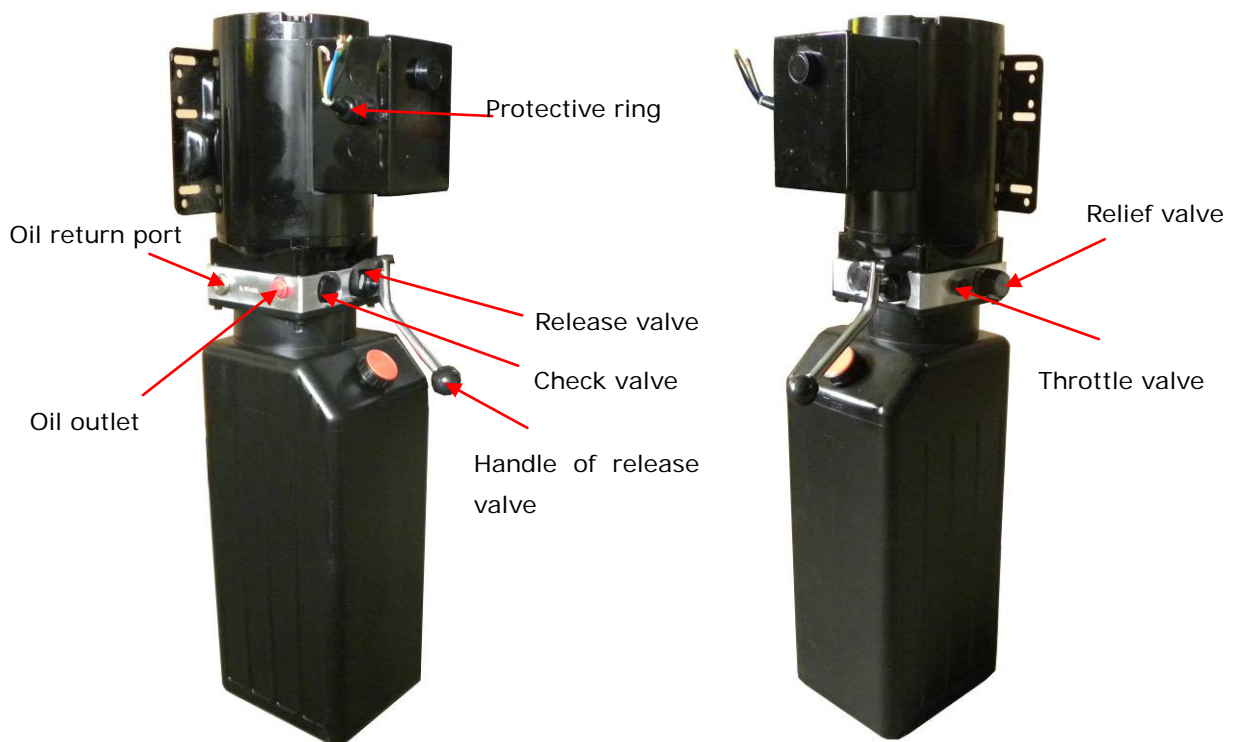

Fig. 36
C. PEAK manual power unit, 380V/50HZ, 3 phase (See Fig. 36)